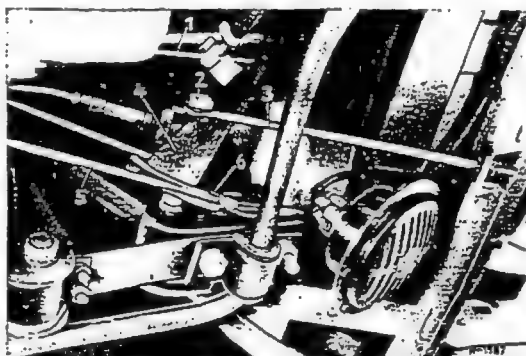

Fig. 42-18/5
4. Bend the locking plate upward and screw out the hexagon screw (2) (Fig. 42-18/5).
5. Screw out the front hexagon nut at the pull rod (3) and remove the hand brake lever (4) together with the pull rod (Fig. 42-18/5).